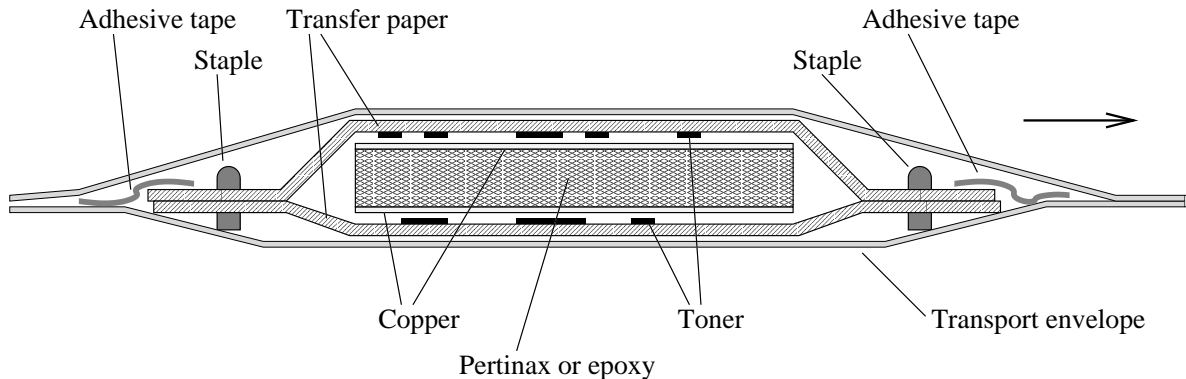

Figure 14.3: The paper stack used for toner transfer with a laminator. (Figure not to scale.)
Figure 14.3 shows the paper stack we use with a laminator. It is very similar to the one used for manual ironing, with two exceptions: (1) instead of just wrapping the transfer package in a sheet of paper, we must now carefully fold this paper and cut it to size, such that it can be properly transported through the laminator. We call this paper the transport envelope. (2) since pressure is not applied straight from the top, we tape the transfer package to the transport envelope, to prevent it from shifting.